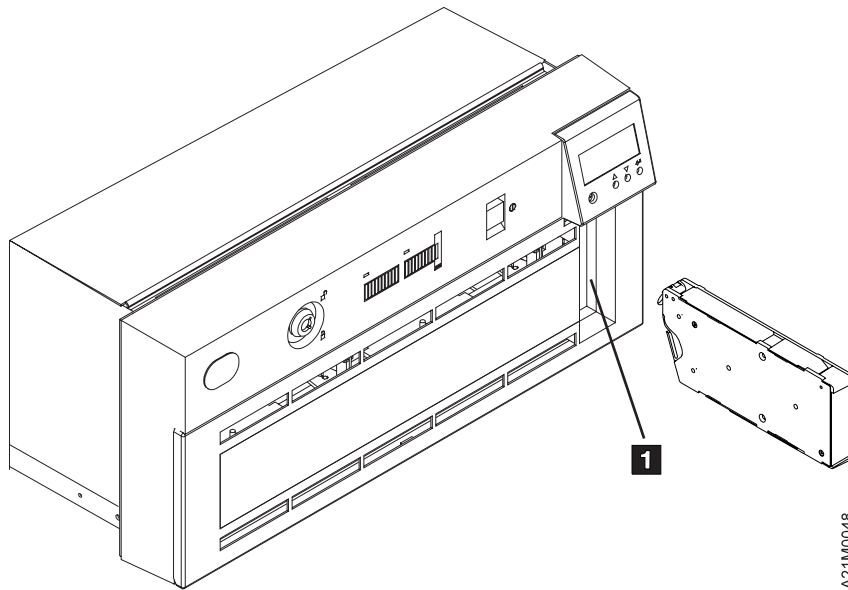

Figure 20. Location of Priority Cell in Library Models
16. Load a scratch cartridge through the priority cell (see **1** in Figure 20 on page 56) to the import position by pushing it gently into the priority cell until it comes to a stop and even with the front of the magazine. Select START from the main Options Menu.
40. Load a scratch cartridge through the priority cell (see Figure 20 on page 56) to the import position by pushing it gently into the priority cell until it comes to a stop, and even with the front of the magazine.